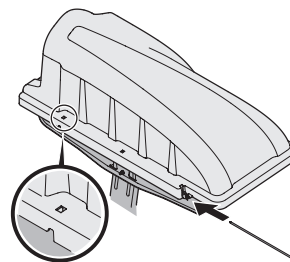
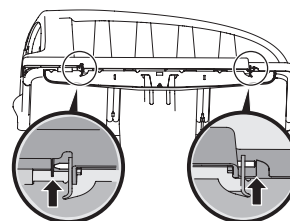

Figure 12
Figure 13
- Slide the hinge pin (711-05079) into the hole located on the mounting tab, as in Figure 12. Use the cut-out window (see inset in Figure 12) to line up the hinge pin on the other side and push pin all the way in until it reaches the end-stop. At this point the pin clips into place and is secured by a tab in the bagger cover. See Figure 13.